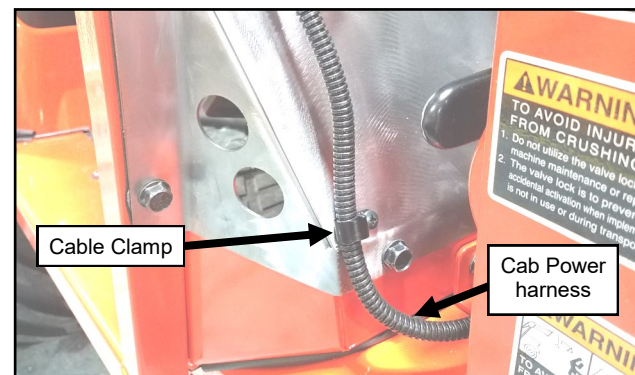

Fig. 19.7 (Secure Harness with Cable Clamp)
- 19.7** Secure the wire harness to the outside of the cowl with a cable clamp. See Figure 19.7.